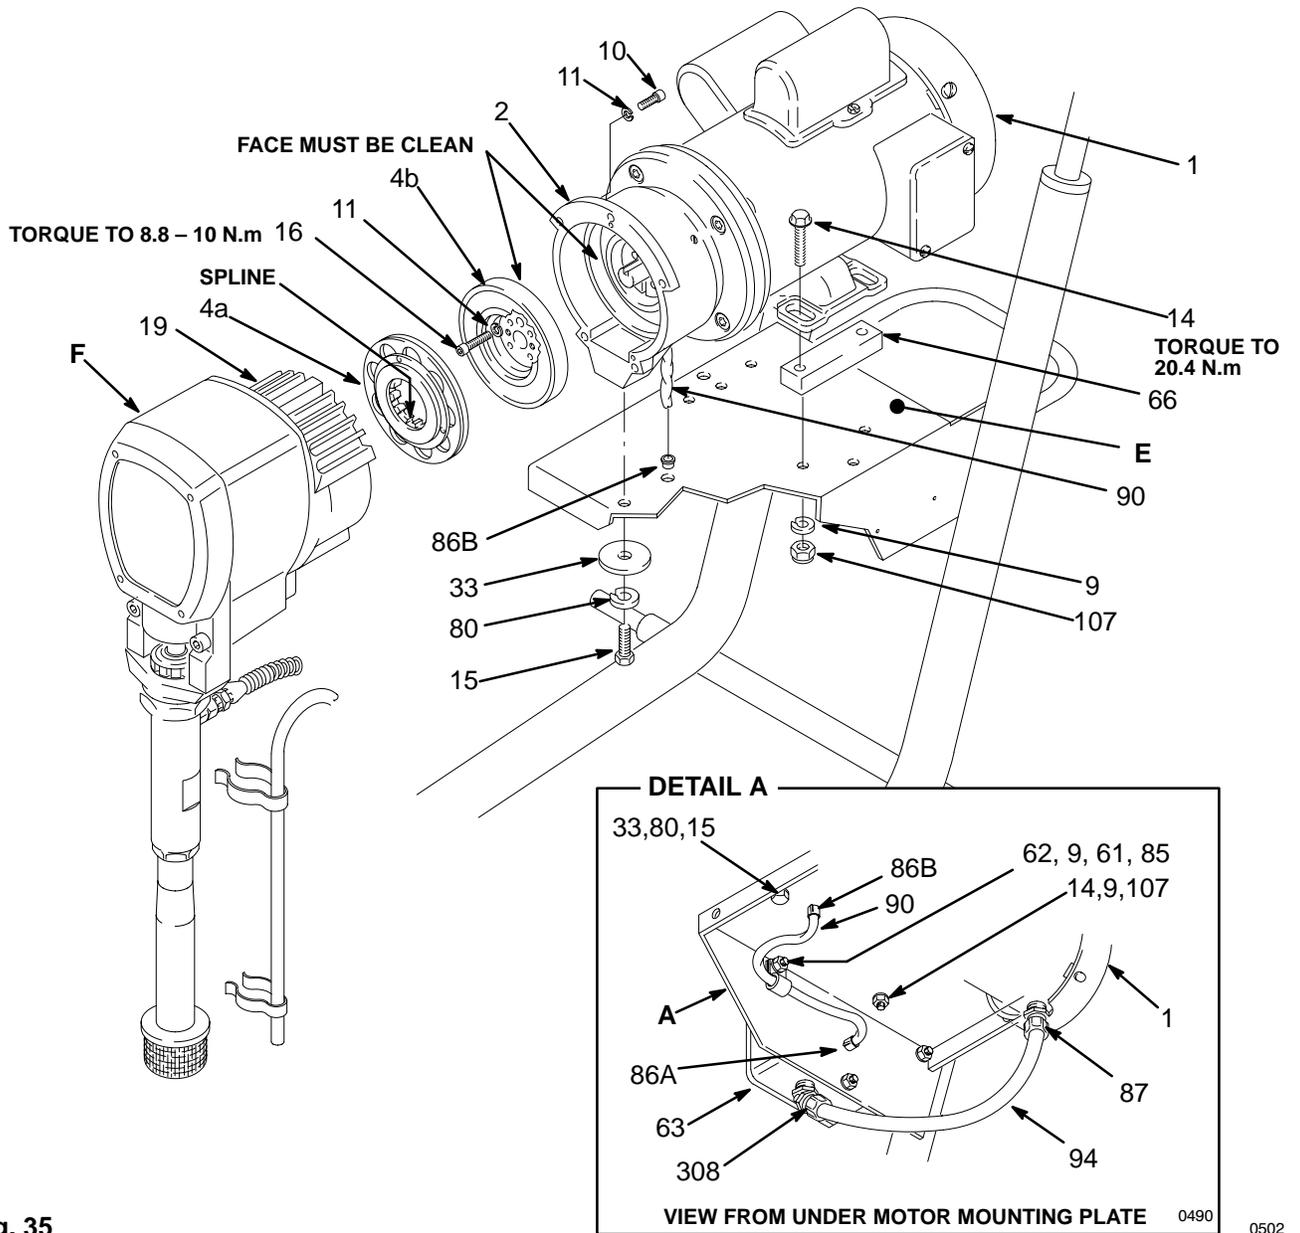

Fig. 35
6. Place the **motor (1)** assembly on the cart. Align the mounting holes. Carefully guide the motor leads through the conduit. Tighten the conduit connector (87). See Detail A, Fig. 35.
7. Insert the grommet (86B) in the frame so 10 mm of it is exposed above the frame. Guide the field wire harness (90) through the grommet. Secure the wire harness to the bottom of the frame with the clamp (85), and hardware (62, 9, 61). Guide the wire harness through the grommet (86A) and into the pressure control. Press the grommet into the frame. See DETAIL A.
8. Secure the motor to the spacer (66) and motor mounting plate, using the flange screws (14), lockwashers (9) and locknuts (107). Torque to 20.4 N.m. Secure the clutch to the motor mounting plate using the the capscrews (15), lockwashers (80) and washer (99).
10. Be sure the face of the **rotor (4b)** and the field is free of all oil and contaminants. Install the rotor, lockwashers (11) and capscrews (16). Torque the capscrews to 8.8 to 10 N.m. See Fig. 35.
11. After installing the rotor (4b), turn the motor from the fan end, using a screw driver, to ensure there is no friction between the rotor (4b) and the field (6). If there is friction, recheck the dimensions of the clamp and field as explained in Steps 3. & 4., page 29.
12. Be sure the face of the **armature (4a)** is clean. Assemble the armature to the shaft in the pinion housing (19). A retaining ring located within the armature makes it difficult to assemble these parts. Follow this procedure for the best results. First, engage a few splines of both parts. While they are engaged, use a screwdriver to gently push the retaining ring onto the armature, and finish engaging the splines. Push the armature onto the shaft until it contacts the ring (19m). See Fig. 35.
13. Assemble the **pinion housing (19)** to the clutch housing, using the capscrews (10) and lockwashers (11). See Fig. 35.
14. Secure the drive housing assembly (F) to the clutch housing (2), using the screws (10) and lockwashers (11).